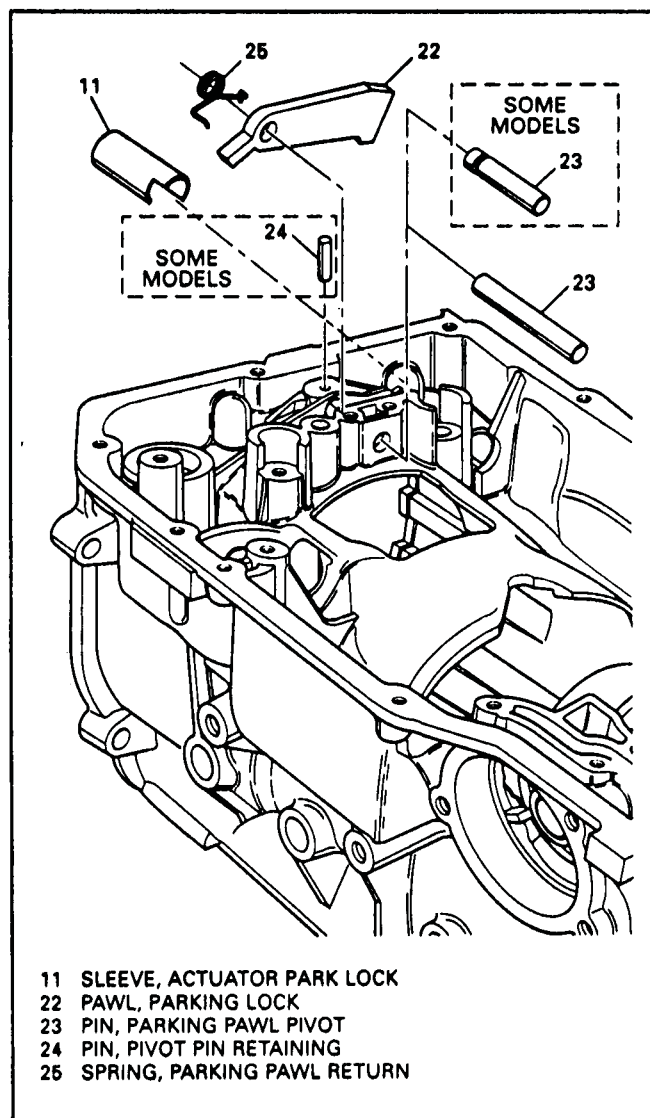

Figure 58
2. Drive out the pivot pin retaining pin (24), as shown in Figure 58.
4. Remove parking pawl and spring, as shown in Figure 58.
6. Drive out towards case extension part of the case (See Figure 58).